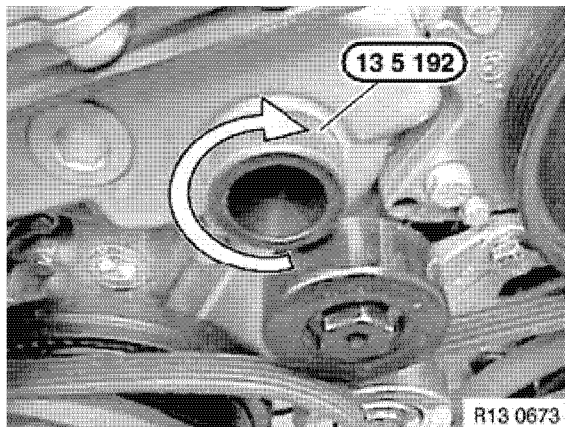

Figure 6-25
11. Thread special tool OEM No. 13 5 192 into timing case cover (Figure 6-25).